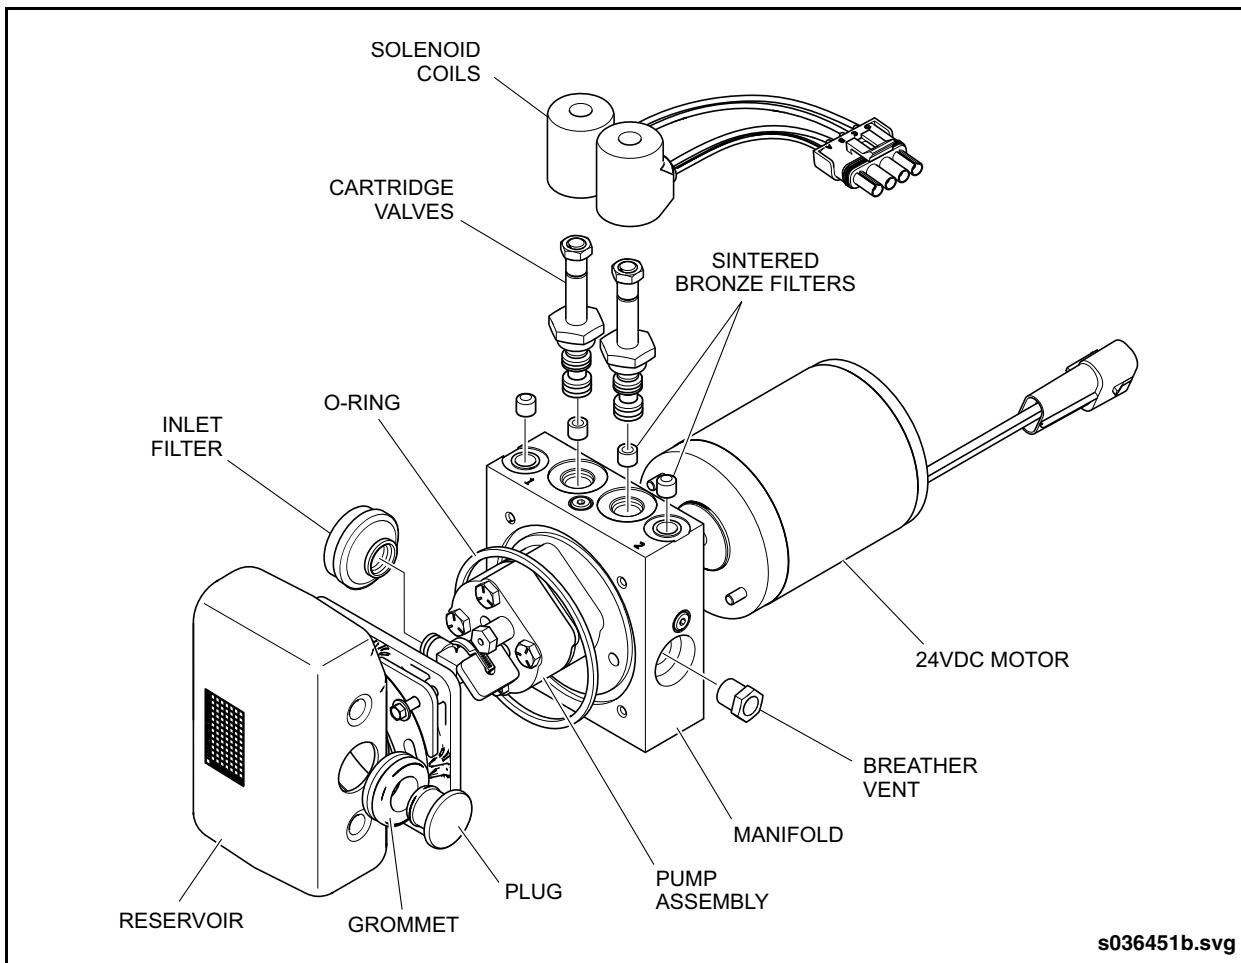

Fig. PM-47: Hydraulic Power Pack Assembly
5. Inspect filters and screens. Refer to 2.26.2.2. "Screen & Filter Inspection" on page 98 in this section for replacement procedure. See "Fig. PM-47: Hydraulic Power Pack Assembly" on page 98.